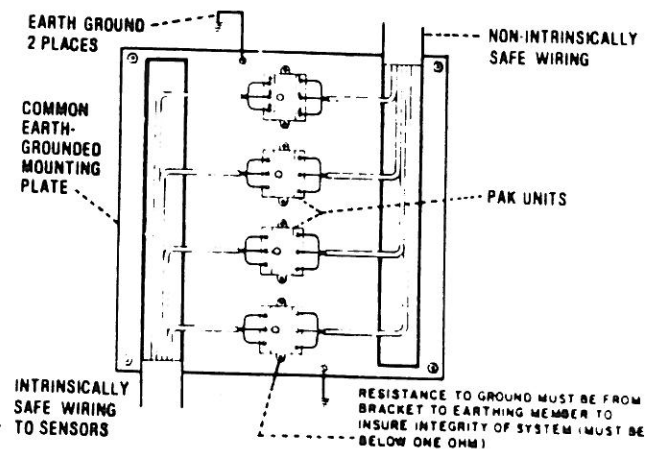

Fig. 3. Multiple PAK units grouped on common, earth-grounded mounting plate.
- A. Field wiring of intrinsically safe circuits is to be segregated from non-intrinsically safe wiring by use of suitable barriers, separate wireways or trays (see Fig. 3).